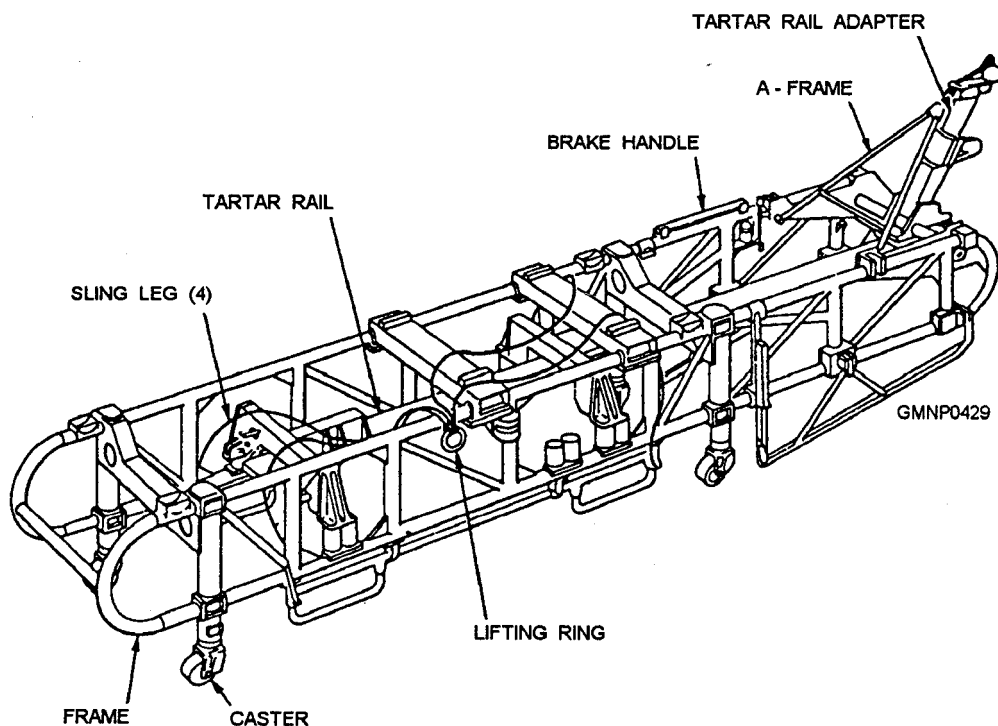
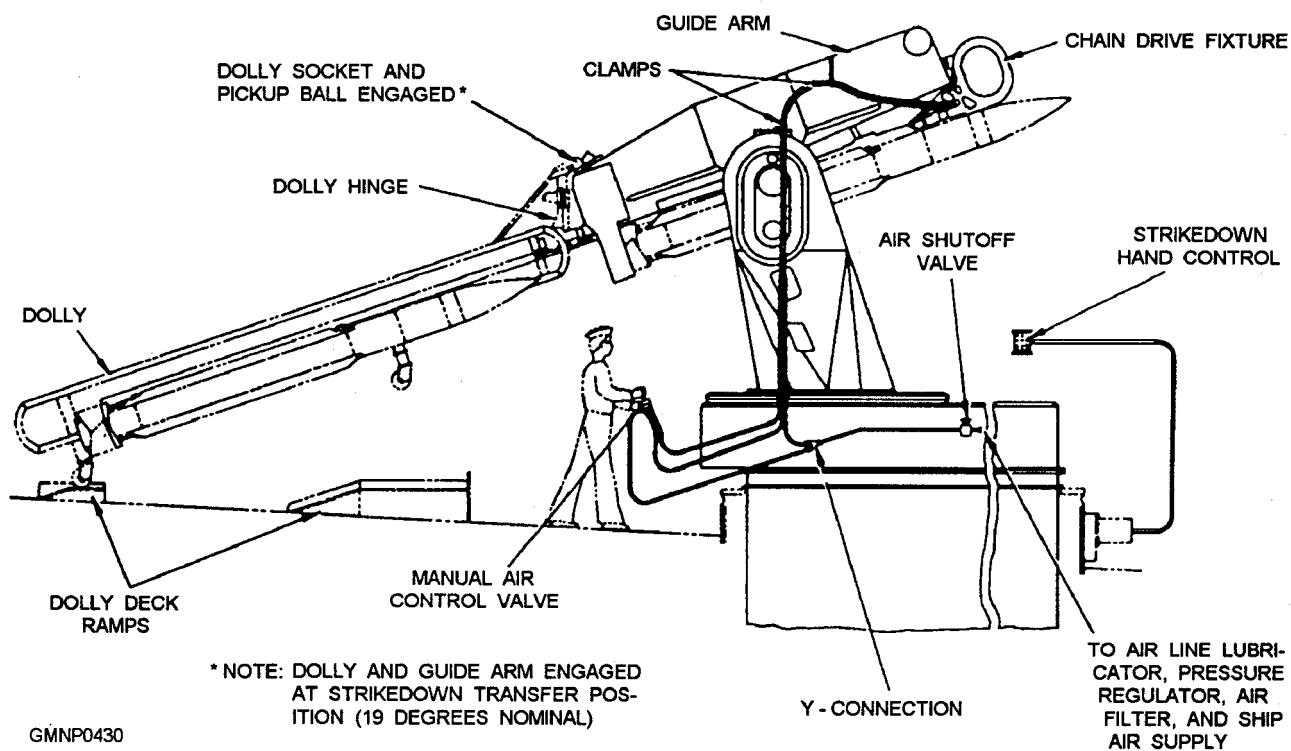

Figure 8-3.—Transfer dolly.
Figure 8-4.—Mk 13 Mod 4 GMLS strikedown operations.
handling equipment, which must be installed on the launcher. This equipment provides a pneumatically driven chain mechanism to transfer the missile between the guide arm and transfer dolly (fig. 8-3). Figure 8-4 shows a Mk 13 Mod 4 strikedown operation with strikedown handling equipment installed.
**MANUAL AIR-CONTROL VALVE.**— The manual air-control valve is a three-position, hand-operated valve (see fig. 8-4). Air line hoses connect it to a convenient ship supply air source near the launcher. Other hoses connect it to the pneumatic components on the chain-drive fixture.